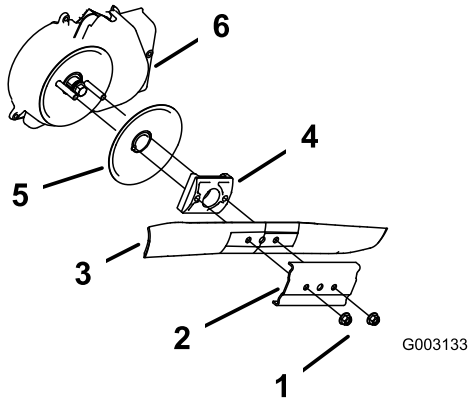

Figure 34
3. Remove the 2 blade nuts and the stiffener (Figure 34).
4. Remove the blade (Figure 34).
5. Remove the blade driver and disk (Figure 34).
6. Remove the blade-brake-clutch shield (Figure 34).
10. Install the blade and the stiffener that you previously removed (Figure 34).